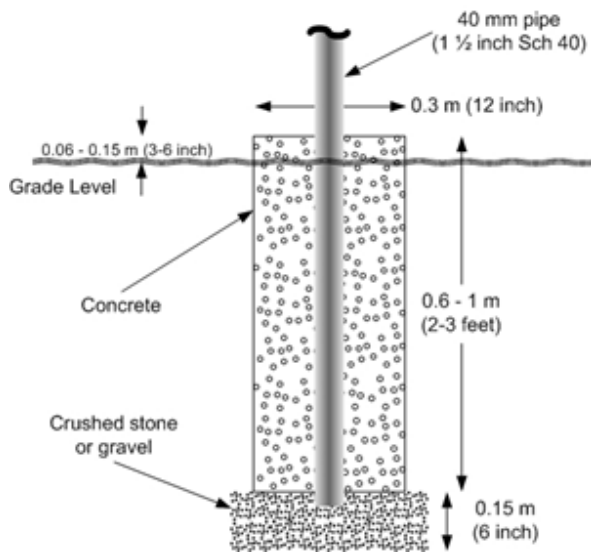

Figure 2.1.2-1 Site Preparation – Concrete Footer
- **Support Structure** - If the sensor is to be installed as a stand-alone instrument, prepare a concrete footer as shown in Figure 2.1.2-1. It is recommended that depth of the concrete footer is below the frost line to avoid heaving. When preparing for the concrete footer also plan for earth grounding, power wiring, and signal wiring
- The Sentry™ may also be installed on an existing structure such as a traffic pole or triangular tower using the optional 74050 Mounting Bracket. A customer provided boom arm structure may also be assembled from 1 1/2 inch schedule 40 pipe & fittings as shown in Figure 2.1.2-2. The boom arm structure should be attached to the side of the triangulate tower with U-bolts or similar hardware. When selecting which side of the tower to use, make certain that the sensor sample volume is facing away from the tower and not over the boom arm while still aligning the receiver optics facing in a northerly direction or parallel with the roadway.